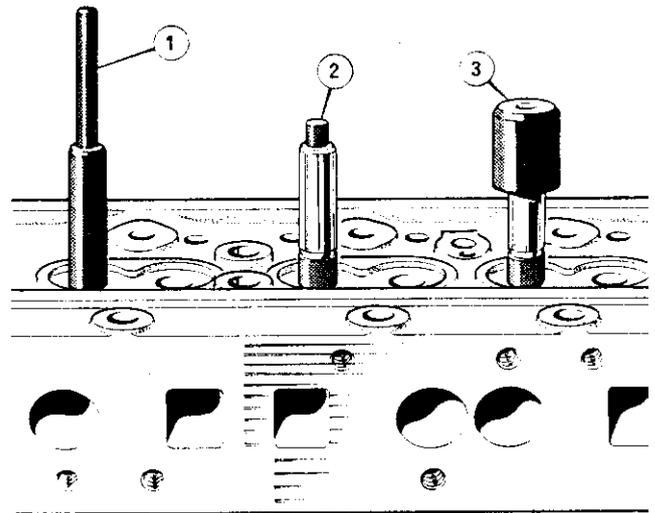

Figure 16 Valve guide removal and replacement
5. If valve guides are worn then remove them using special tool RT 7478 (**Figure 16**).